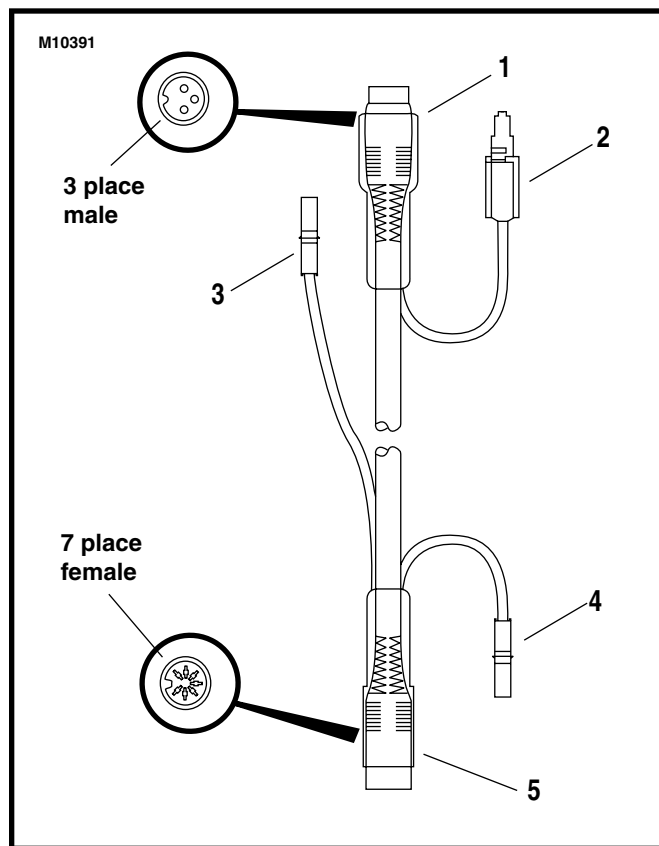

Figure 25. Adapter Cable Part No. 87559-94
Refer to Figure 25, the vehicle's wiring diagram, and the sidecar's wiring diagram for the call-outs.
3. See Figure 25. Connect the **extension DIN** to the adaptor end (1).
4. Connect adapter end (5) to connector SC49A on the sidecar.
5. Connect adapter end (3) to **pod DIN** jumper wire (single pin Amp connector coming out of pod DIN cable) on vehicle.
connector out of the passenger sound control panel on the right side of the seat. Insert the two 10 place connectors of the interface harness there. Find connector SC52A (8 pin Deutsch) coming from the sidecar and install the remaining Deutsch end of the interface harness into it. SC52B from the sidecar will be unused. Find connector 15A&B on the motorcycle (under the seat). Connector 15B, place #4 will be vacant, and should line up with a white wire in connector 15A. Install the loose wire from the interface harness into the vacant cavity. The remaining loose blue/yellow wire on the interface harness will be installed into place 4 of adapter cable 87559-94 pictured in Figure 25.
NOTE 10. **Wiring Interface** - This interface harness will have two 8 place Amp connectors and two 8 place Deutsch connectors. It will also have one loose Amp pin on a blue/yellow wire. Locate and separate connector 15A&B on the motorcycle (under the seat). Insert the 2 Amp connectors in the wiring interface there. Locate Deutsch connectors SC52A and SC52B coming from the sidecar, and install the two remaining Deutsch connectors in the wiring interface to them. Connect the loose blue/yellow wire from the wiring interface to place 4 of the DIN adapter 87559-94, shown in Figure 25.